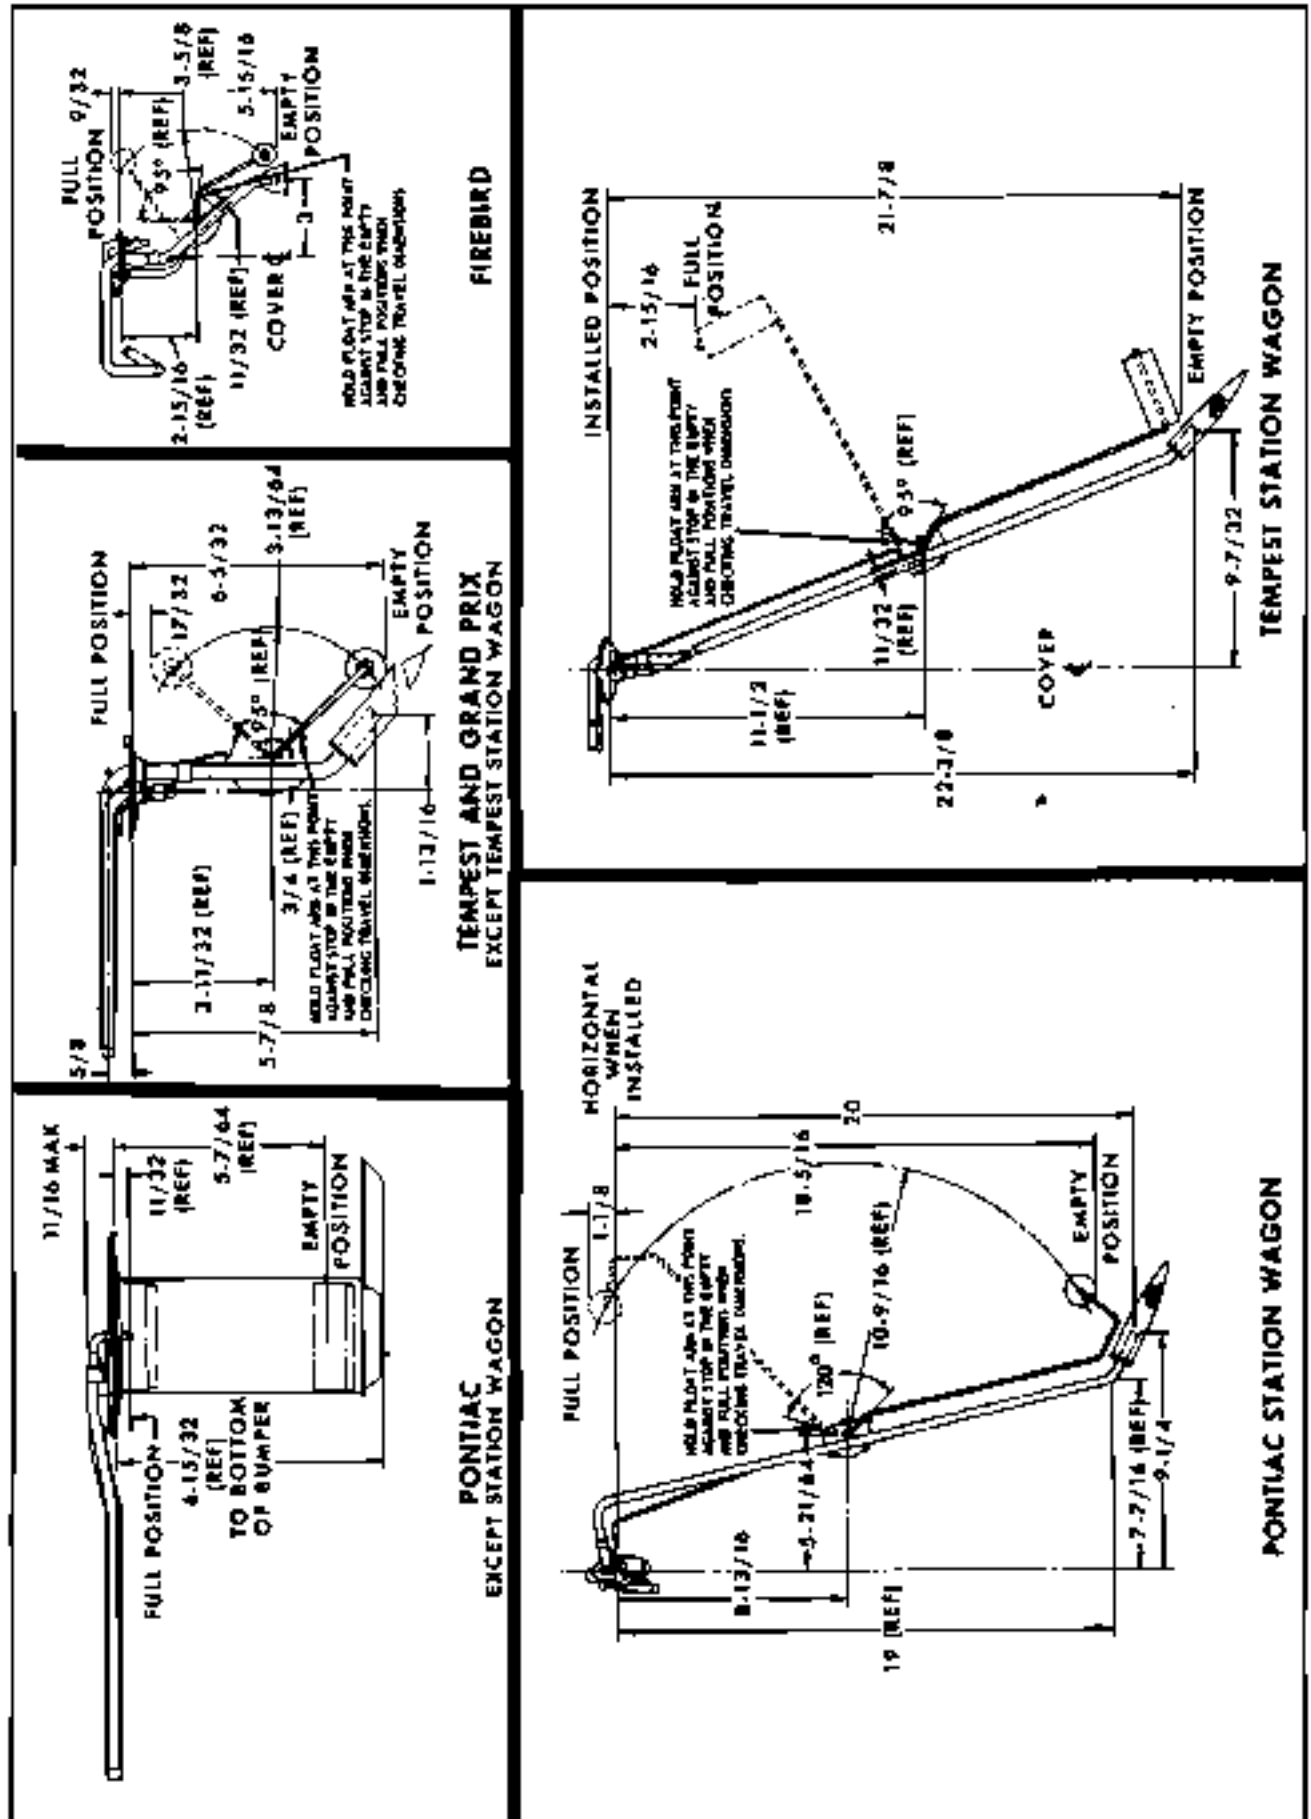

Fig. 8-11 Fuel Tank Gauge Unit
2. Clean away any dirt that has collected around gage unit and terminal so it will not enter tank when gage unit is removed (Fig. 8-11).